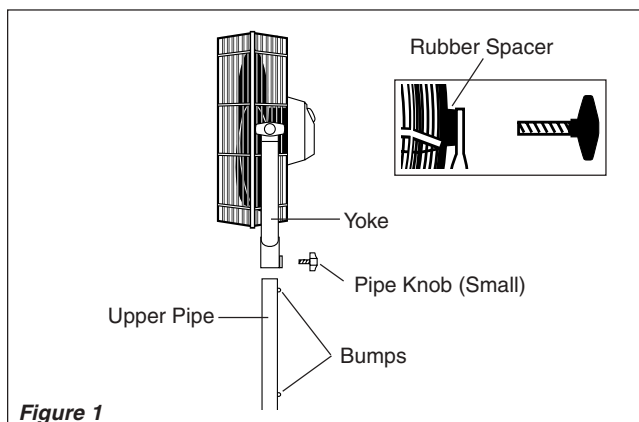

Figure 1
1. Lay Fan Head on flat surface, so the front side is facing down. Hold Yoke so the side with the nut is facing up. Loosely attach one Grill Knob and one Rubber Spacer to the Head Assembly. Attach the other Grill Knob and Rubber Spacer to the Head Assembly and FIRMLY tighten. Return to the first Grill Knob and FIRMLY tighten. (Figure 1)
2. Make sure Bump on Upper Pipe is aligned with formed section of Yoke. Insert Upper Pipe into Yoke. To ensure fit is tight, twist Upper Pipe until it is tight inside of Yoke. (Figure 1)